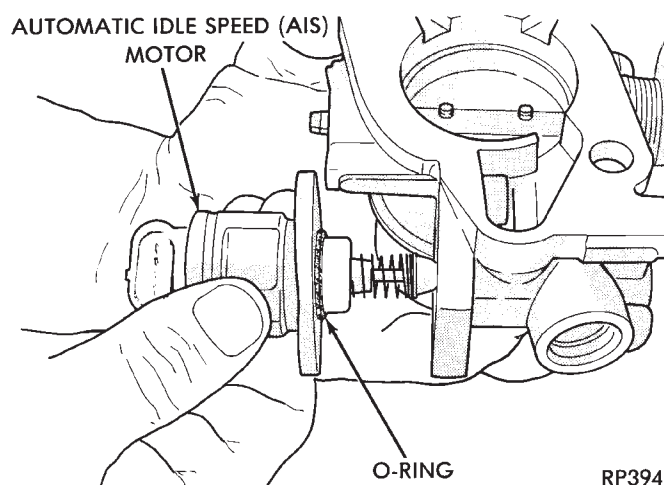

Fig. 4 Servicing Automatic Idle Speed (AIS) Motor
- (1) Disconnect negative cable from battery.
- (2) Disconnect harness connector from AIS (Fig. 4).
- (3) Remove AIS motor mounting screws.
- (4) Remove the AIS motor from throttle body (make certain that the O-ring is on the AIS motor).